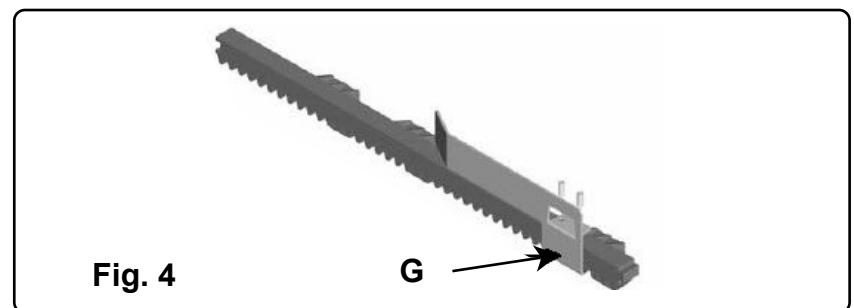

Fig. 4
- Check that the wheels (**Fig. 4**) used are suitable for the type of runner on the ground
Fasten the limit stop plates (Cams **G**) of the motor on the rack, (**Fig. 4**)